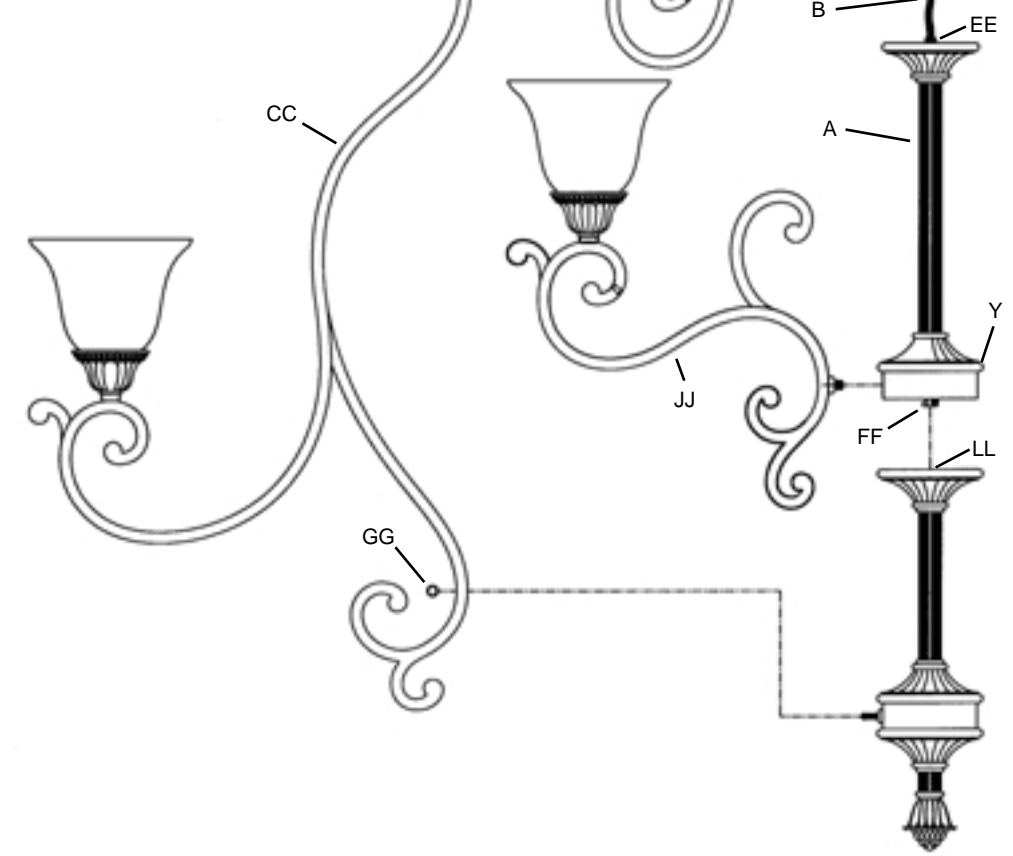

FIG. 2A
- 1) Pass safety cable from column (A) through hole in bottom of hickey (B) and up through threaded pipe (C) inside column (E). Do not assemble columns at this time.
- 2) Pass safety cable from column (E) through hole in bottom of hickey (G) and up through threaded pipe (I) inside column (K). Do not assemble columns at this time.
- 3) Lay column sections on flat surface end to end. Temporarily attach clamp (T) to safety cable approximately 24" above loop. This will prevent cable from slipping out of columns and ease in assembly.
- 4) Attach chain (W) to bottom of screw collar loop (L). Screw collar loop has one chain link factory installed. Chain has one locking link (S) at each end. Unscrew coupling on locking link and slip over link attached to screw collar loop. Screw coupling closed.
- 5) Attach chain (W) to loop (V) at top of column (K).
- 6) Assemble arms (AA) to body (BB) at bottom of column (K) using lockwashers and hexnuts (see Fig. 2A). Tighten hexnuts using provided wrench.
- A) Take one 28" black and one 28" white jumper wire from parts bag and pass through hole in bottom of hickey (G).
- 8) Pass jumper wire through threaded pipe (C) inside column (E). Pull jumper wires out the side of hickey (B).
- 9) Apply a small amount of thread locking compound to threaded rod (C) and screw threaded rod into hickey (G). Make sure all wires are tucked into body and do not get pinched during assembly.
- 10) Assemble arms (CC) to body (DD) at bottom of column (E) using lockwashers and hexnuts (see fig 2A). Tighten hexnuts using provided wrench.
- C) Connect the two 6" black jumper wires to the black jumper wire from column (E) and the black jumper wire from column (A) using provided connectors. Repeat for white wires.
- 12) Apply a small amount of thread locking compound to threaded rod (EE) and screw threaded rod into hickey (B). Make sure all wires are tucked into body and do not get pinched during assembly.
- 13) Assemble large arms (JJ) to body (Y) using lock washers and hexnuts (see Fig. 2A). Tighten hexnuts using provided wrench.
- C) Connect the two 6" black jumper wires to the black jumper wire from column (A) using provided connectors. Repeat for white wires.